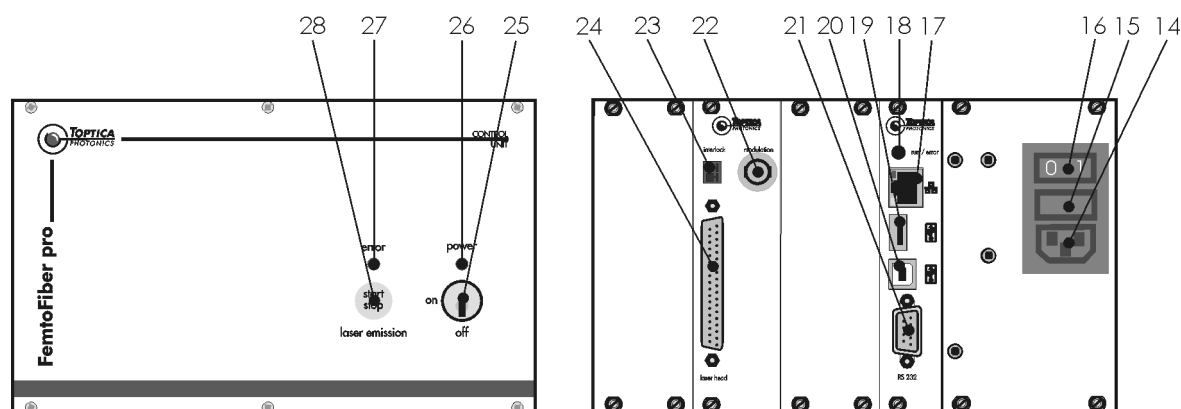

Figure 28 Operator Controls FemtoFiber® pro Control Unit
- 1 Connect the supplied mains cable to the FemtoFiber® pro Control Unit (connector and switch at rear panel, see Figure 28).
- 2 Connect the supply and control cable to the FemtoFiber® pro Laser Head (Power/Control Connector (11)) and the FemtoFiber® pro Control Unit (Power/Control Connector (24)).
- 1 Connect the supplied mains cables to the FemtoFiber® pro Control Units (connector and switch at rear panel, see Figure 28).
- 2 Connect the supply and control cables to the FemtoFiber® pro Laser Heads (Power/Control Connector (11)) and the FemtoFiber® pro Control Units (Power/Control Connector (24)).
Connect the Control Computer to the USB Type A connector (Figure 28: 19) of the FemtoFiber® pro Main Control Unit.
4. Connect the supplied USB cable first to the USB Type B connector (Figure 28: 20) of the FemtoFiber® pro Control Unit and then the control computer.